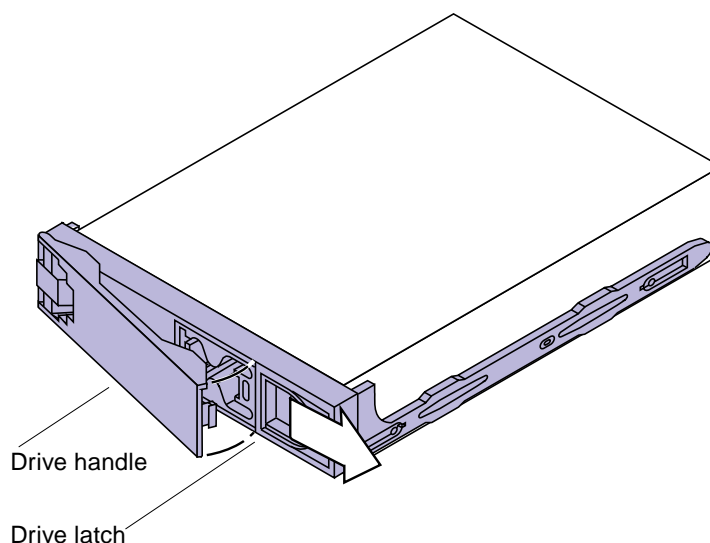

Figure 2-8 Removing the Disk Drive
3. Unlatch the drive handle and swing it open (Figure 2-8).
4. Hold the drive handle and pull it out to remove the drive from the chassis (Figure 2-8).**5. Place the drive on an antistatic surface.**